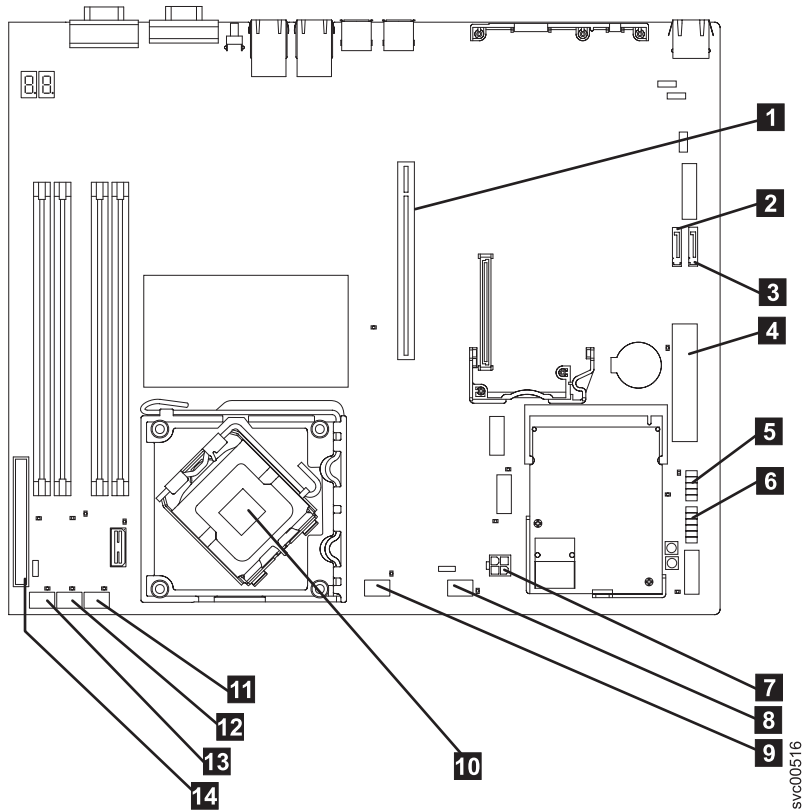

Figure 273. Connectors that are used on the SAN Volume Controller 2145-8A4 system board
7. Mark the cables to ensure that you know where each one goes. Figure 273 on page 291 shows the connectors on the SAN Volume Controller 2145-8A4 system board.